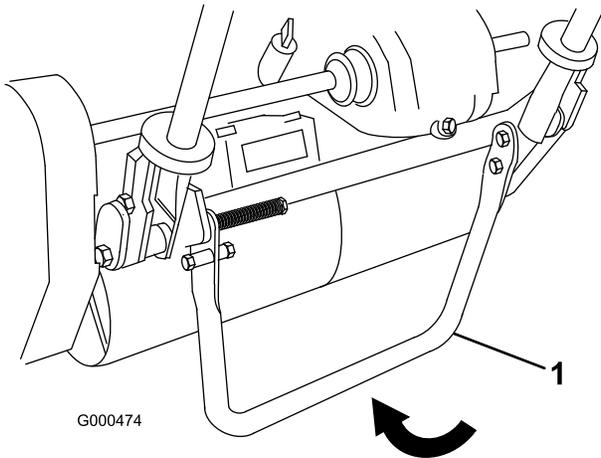

Figure 22
1. Push kick stand down with foot and pull up on handle support until kick stand has rotated forward, over center (Figure 22).